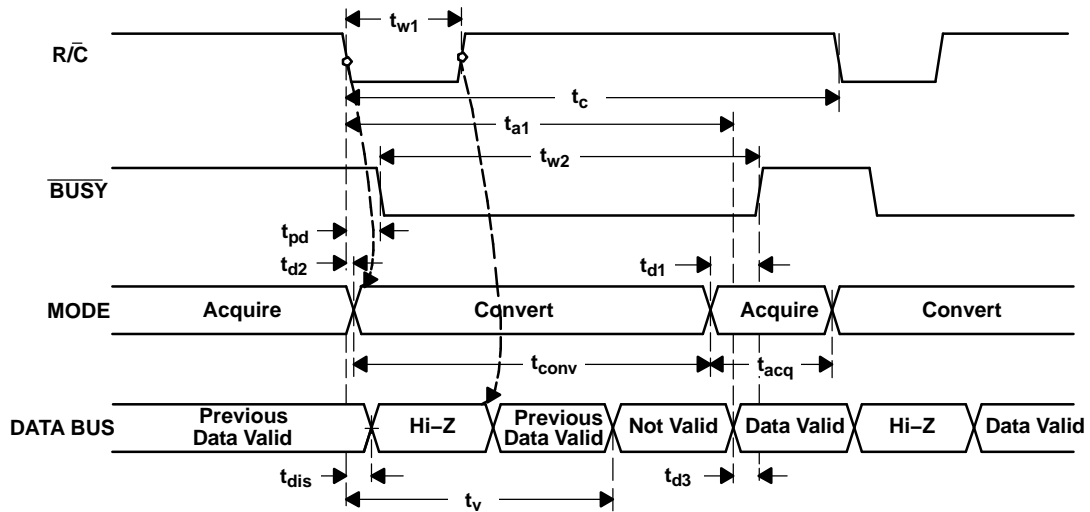
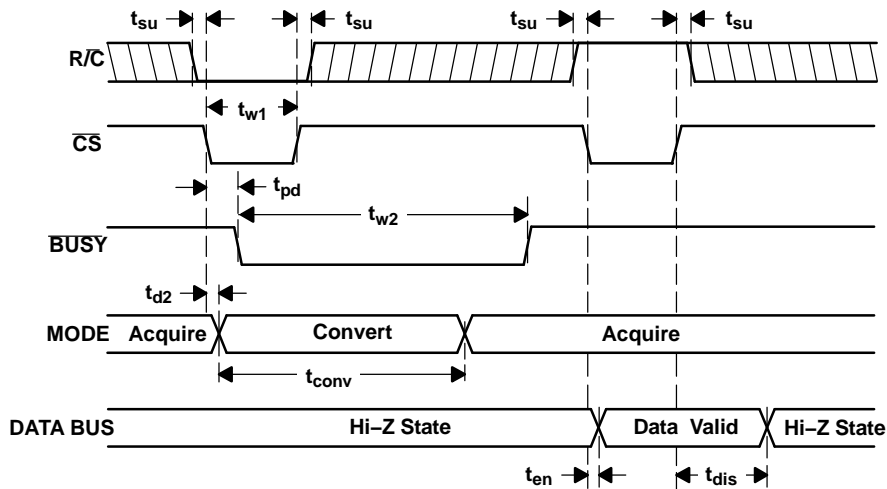
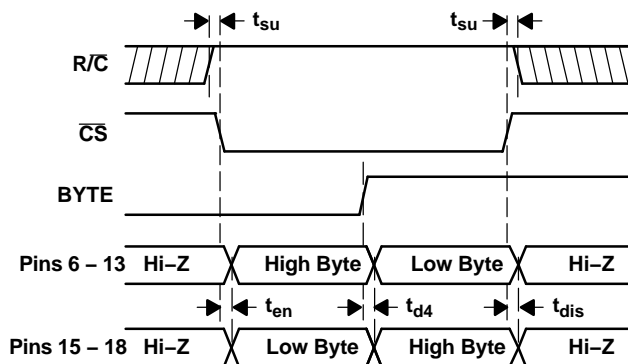

Figure 19. Conversion Timing with Outputs Enabled after Conversion ( $\overline{CS}$  Tied Low)
Figure 20. Using  $\overline{CS}$  to Control Conversion and Read Timing
Figure 21. Using  $\overline{CS}$  and BYTE to Control Data Bus
The ADS8504 begins tracking the input signal at the end of the conversion. Allowing 4  $\mu$ s between convert commands assures accurate acquisition of a new signal. Refer to Table 1 for a summary of  $\overline{CS}$ ,  $\overline{R/C}$ , and  $\overline{BUSY}$  states and Figure 19, Figure 20, and Figure 21 for the timing diagrams.
(1) See Figure 19 and Figure 20 for constraints on data valid from conversion  $n-1$ .
After conversion  $n$  is completed and the output registers have been updated,  $\overline{\text{BUSY}}$  (pin 26) goes high. Valid data from conversion  $n$  is available on D11-D0 (pins 6-13 and 15-18).  $\overline{\text{BUSY}}$  going high can be used to latch the data. Refer to Table 3 and Figure 19, Figure 20, and Figure 21 for timing specifications.
After conversion  $n$  has been initiated, valid data from conversion  $n-1$  can be read and is valid up to  $t_2$  (2.2  $\mu\text{s}$  typ) after the start of conversion  $n$ . Do not attempt to read data from  $t_2$  (2.2  $\mu\text{s}$  typ) after the start of conversion  $n$  until  $\overline{\text{BUSY}}$  (pin 26) goes high; this may result in reading invalid data. Refer to Table 3 and Figure 19, Figure 20, and Figure 21 for timing specifications.
The number of control lines can be reduced by tying  $\overline{\text{CS}}$  low while using the falling edge of  $\text{R}/\overline{\text{C}}$  to initiate conversions and the rising edge of  $\text{R}/\overline{\text{C}}$  to activate the output mode of the converter. See Figure 19.